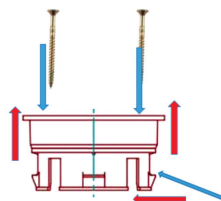

Fig. 5-16: Screwed connector installation
1. The batteries are connected using the insulated row connectors (Fig. 5-16). When establishing the serial connection, the batteries are arranged so that the negative terminal of one battery is connected to the positive terminal of the next battery until the entire system has reached the necessary voltage.